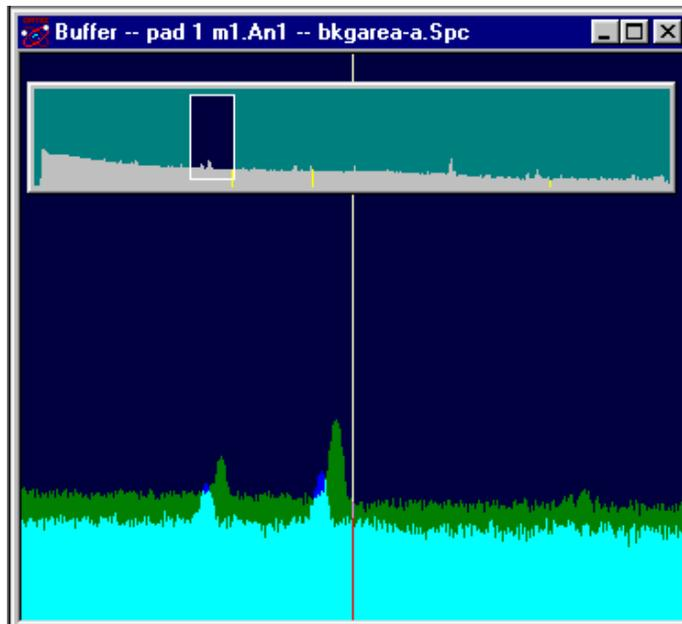
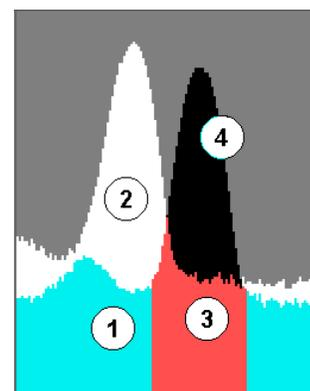

Figure 18. Compare Mode Screen.
Figure 19. Spectrum Colors in Compare Mode.
This function displays a spectrum from disk along with the active spectrum so the two can be visually compared. When you select **Compare...**, a standard file-recall dialog box opens. When you select the desired spectrum file, the active spectrum window shows both spectra, as illustrated in Fig. 18.
Figure 19 is a detailed view of the compare similar to that in Fig. 18. In this illustration, the starting spectrum is displayed in color (1), the Compare spectrum is shown in color (2), the starting spectrum ROIs are marked in color (3), and the portion of the starting spectrum that exceeds the Compare spectrum is indicated by color (4). These colors (**Foreground**, **Compare**, **ROI**, and **Composite**, respectively) are chosen on the **Color Preferences** dialog discussed in Section 3.9.9.